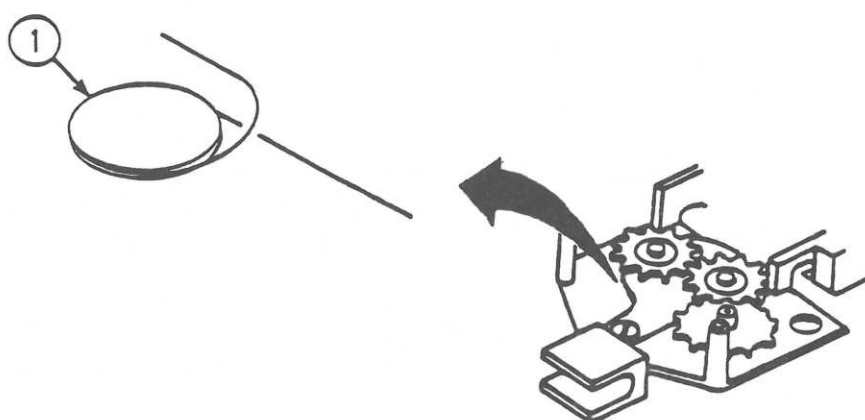

FIGURE 5
10. Notice how the ribbon wire is wrapped around the ribbon pulley gear. (See Figure 5, #1.) Also, notice how the ribbon wire goes through the carrier assembly. This will help you when you have to replace the ribbon wire.